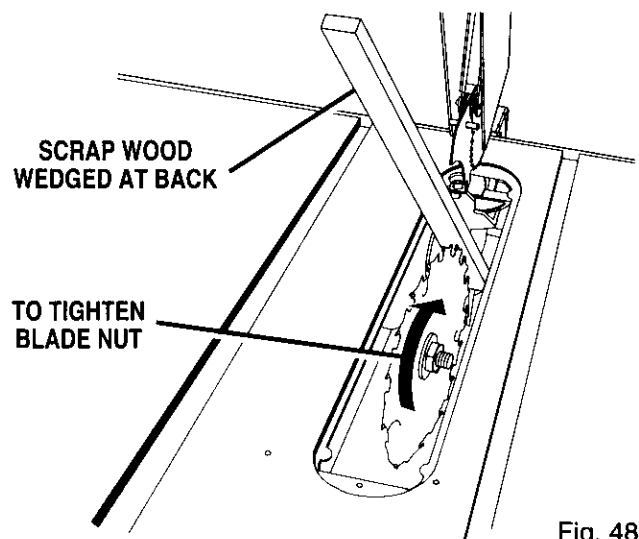

Fig. 48
- Wedge a block of wood at the back of the blade. See Figure 48.